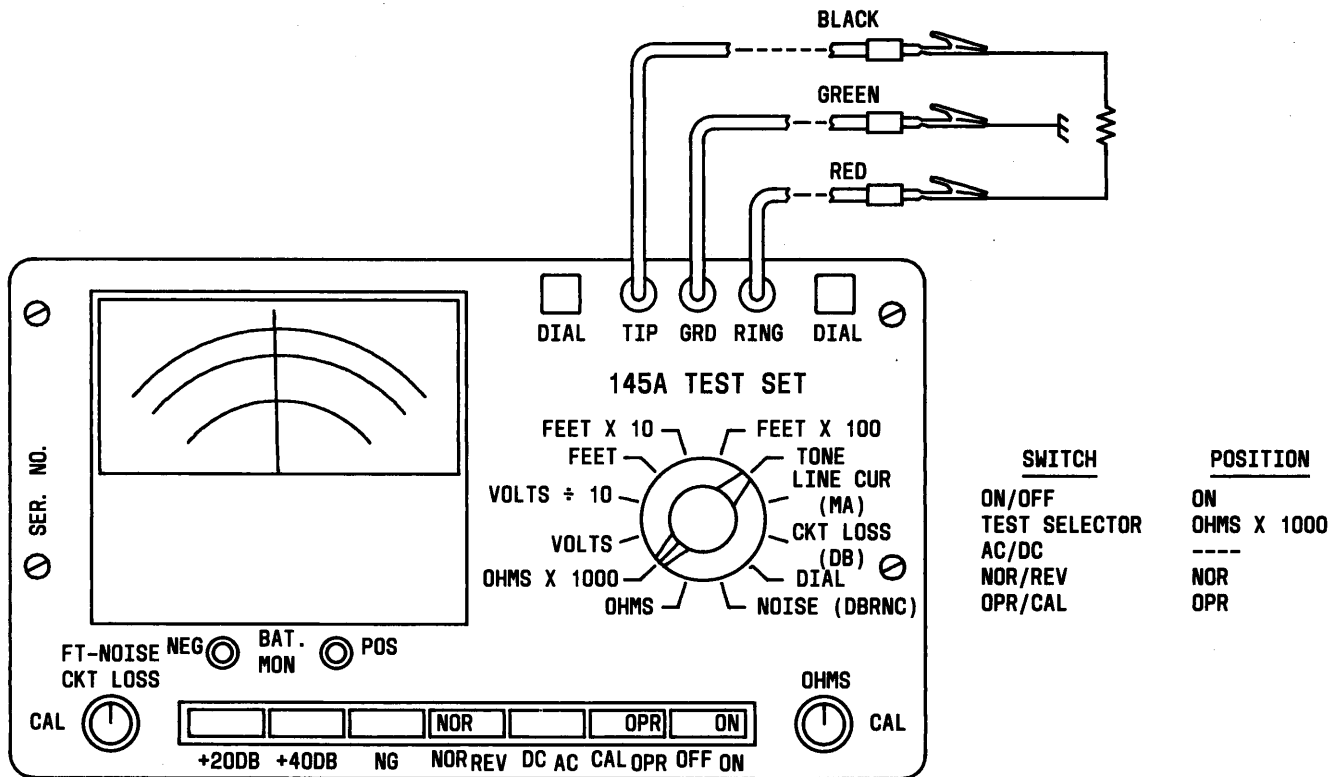

Fig. 2—Resistance Testing
3.04 Resistance Testing (Fig. 2): Perform the following steps to measure the resistance of a circuit.